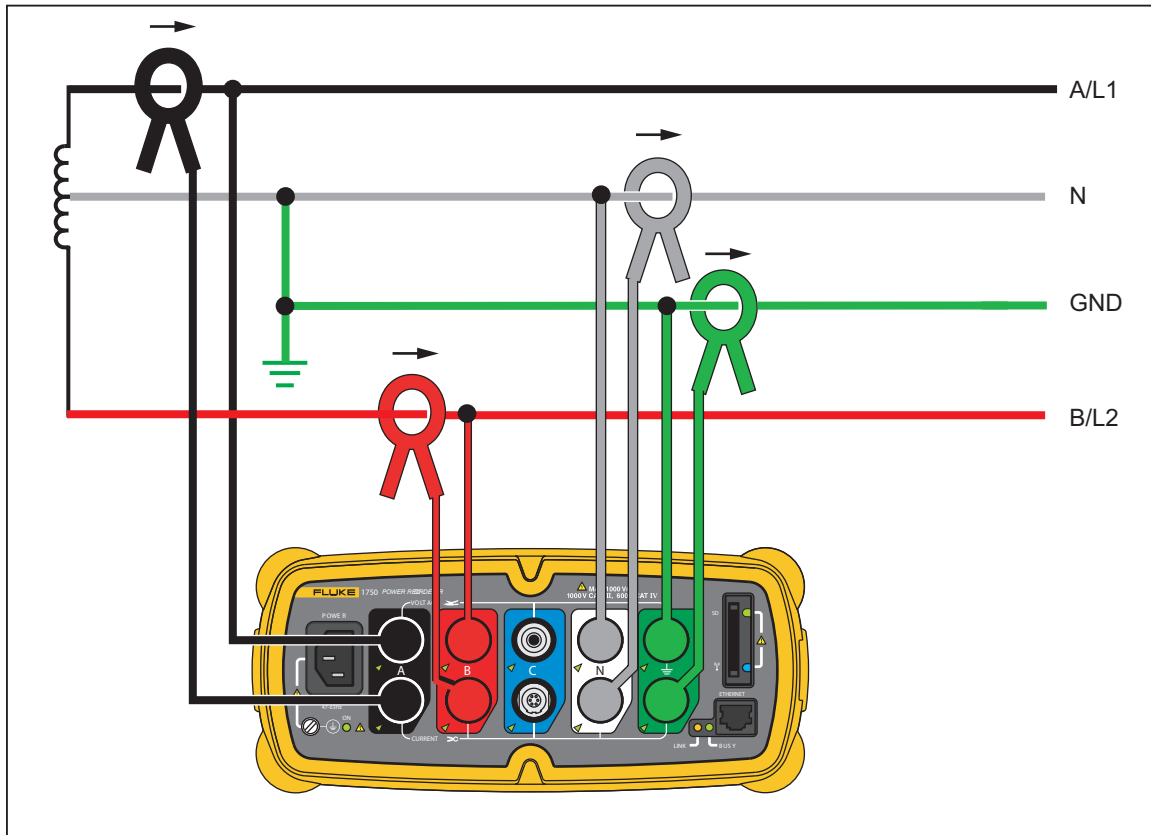

Figure 6. One-Phase Split Phase
- One-Phase-Split Phase (Figure 6)